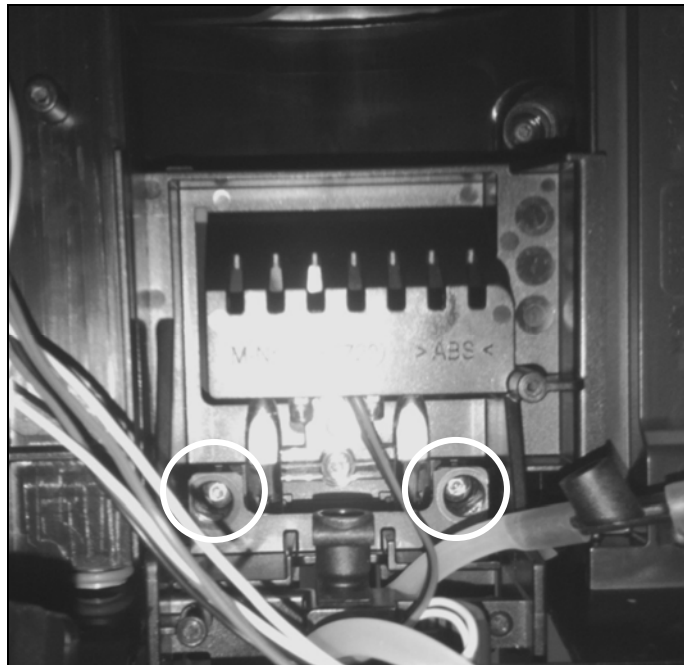

Figure 001-54: Lighting Assembly Mounting Bracket
10. Remove the T10 screws securing the lighting assembly mounting bracket (circles, Figure 001-54); take off this bracket.